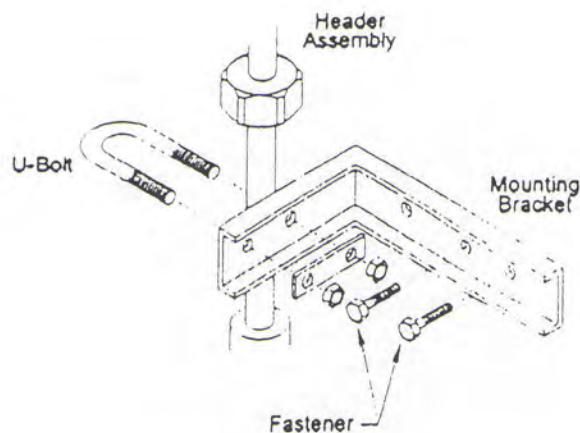

Figure 4
4. Mark the mounting holes and install fasteners suitable for the type of wall construction. (Figure 4)
5. Mount the manifold by placing the header on the bracket. Fit the U-bolt over the header pipe and tighten the mounting nuts. (Figure 4)